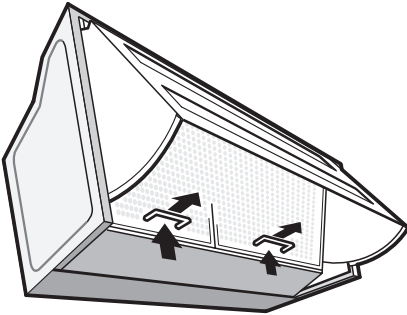

Fig. 3
- Remove the grease filters, first pull the handles upwards, then extract the filter outwards. **Fig. 3.**